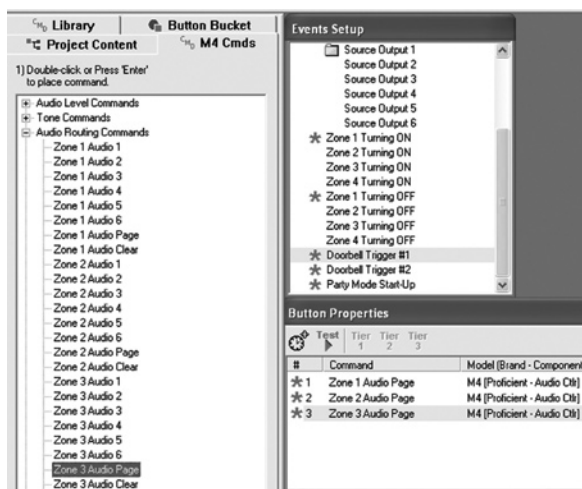

Figure 32 Applying Audio Page Commands to Doorbell Triggers
- Double-click **Zone 1 Audio Page**, **Zone 2 Audio Page**, **Zone 3 Audio Page**, etc., until you have all of these commands show up in the **Doorbell Trigger #1** Command list. Refer to Figure 32.